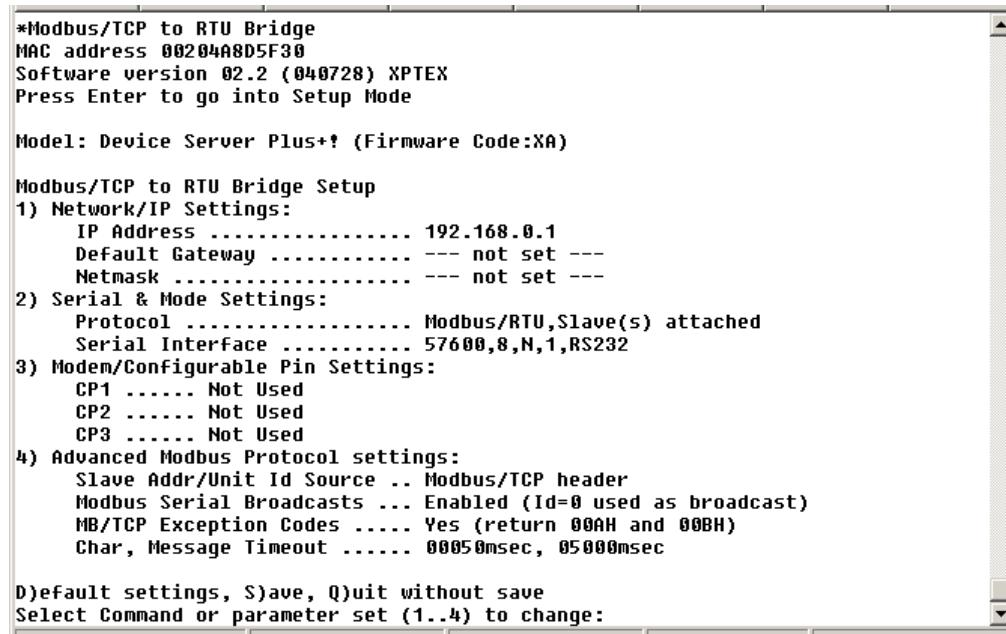

Figure 6-87: TCP/IP Card terminal menu
5. Press the **Enter** key to continue and the menu will appear as shown in Figure 6-87.